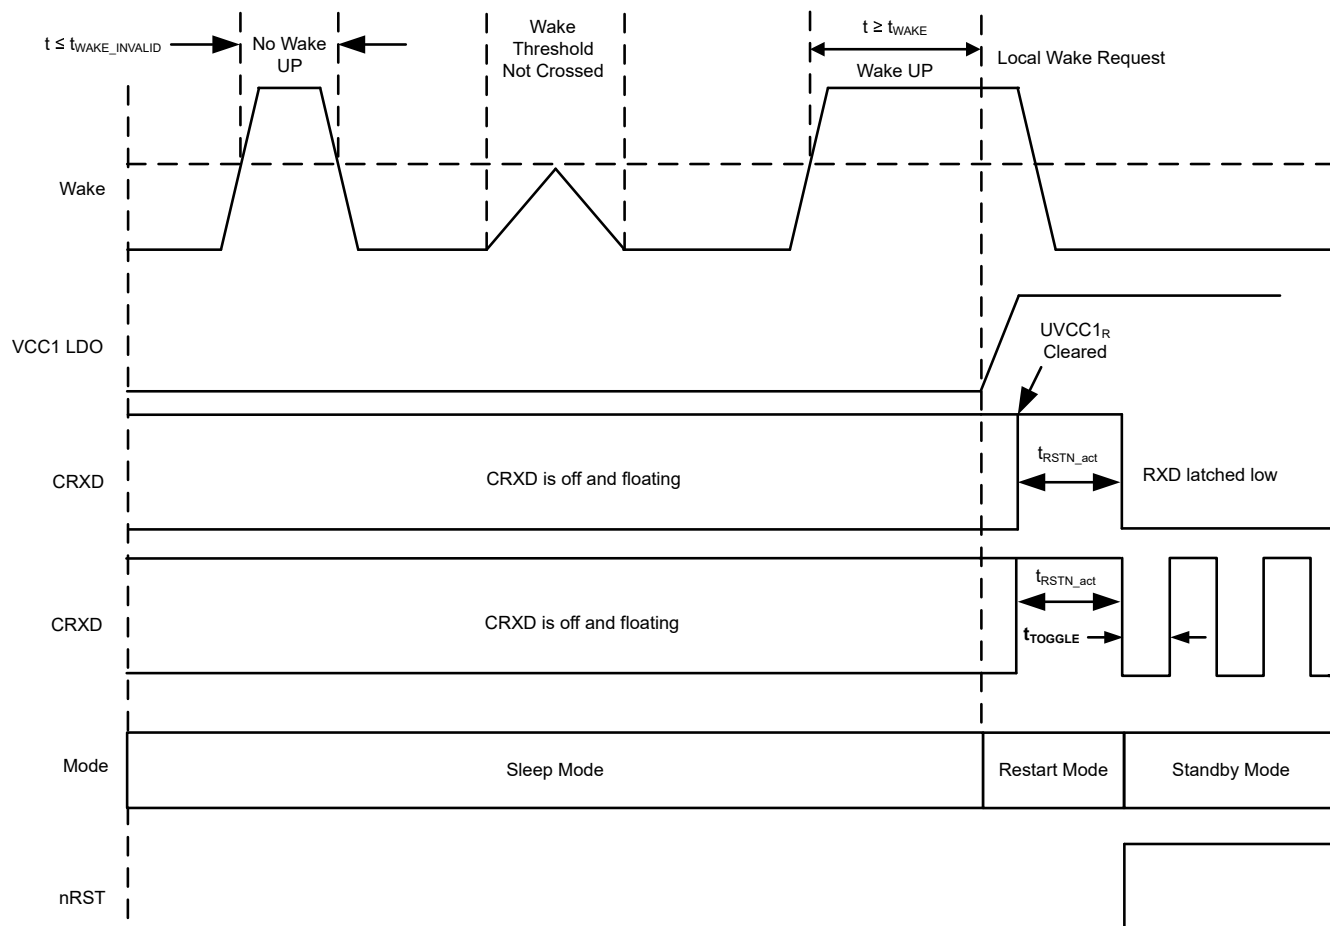
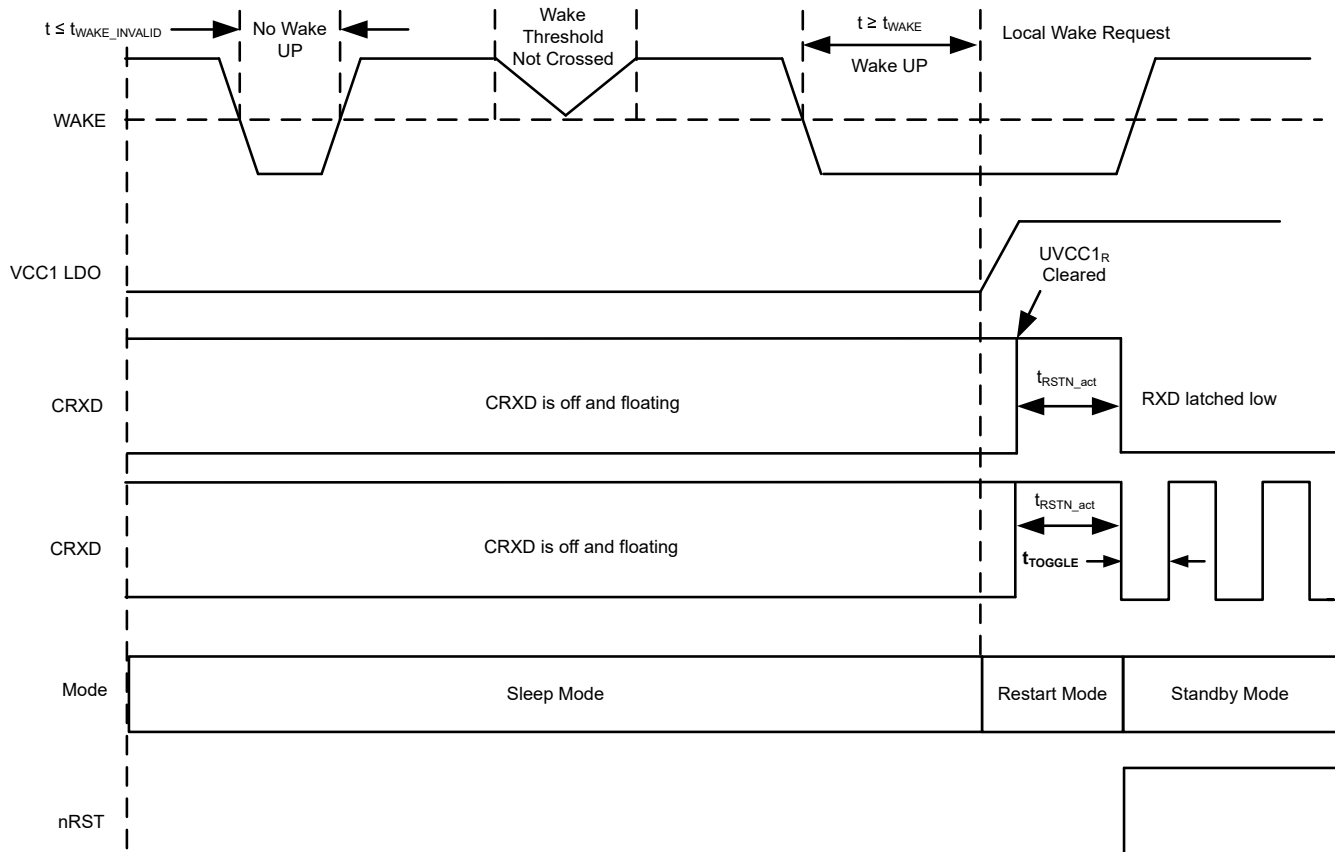

Figure 8-18. Local Wake Up – Rising Edge
Figure 8-19. Local Wake Up – Falling Edge
The WAKEx pins default to static sensing wake (default values of WAKEx_SENSE register bits in WAKE_CONFIG2, WAKE_CONFIG4 and WAKE_CONFIG5 registers). The WAKEx pins default to bi-directional input but can be configured for rising edge and falling edge transitions, see Figure 8-18 and Figure 8-19, by using WAKE_CONFIG register 8'h11[7:6]. WAKE pins are ground based wake inputs and can be used with a switch to ground or V_{SUP} . The WAKEx pins input thresholds can be based on VCC1 levels which allows a direct connection to the processor or a switch to the VCC1 rail. If the terminal is not used, connect it to ground to avoid unwanted parasitic wake up. Once the device enters sleep mode the WAKEx terminals voltage level need to be at either a low state or high state for t_{WAKE} before a state transition for a WAKE input can be determined. A pulse width less than $t_{WAKE_INVALID}$ is filtered out.
- Figure 8-18 and Figure 8-19 provide examples of a rising or falling edge WAKE input. RXD is pulled low once $VCC1 > UVCC1$, and standby mode is entered.